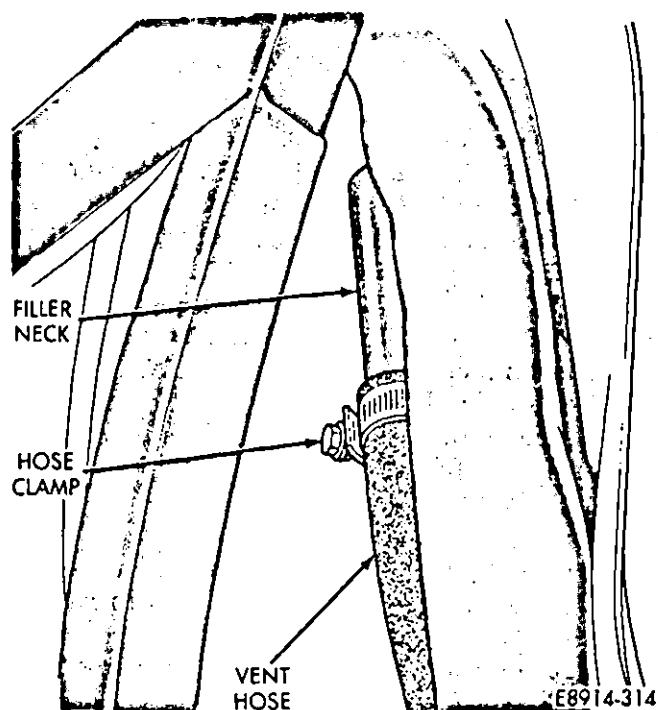

Fig. 8—Fuel Filler Vent Hose Removal/Installation
(8) Loosen hose clamp and disconnect fuel tank vent hose from fuel tank filler neck (Fig. 8).